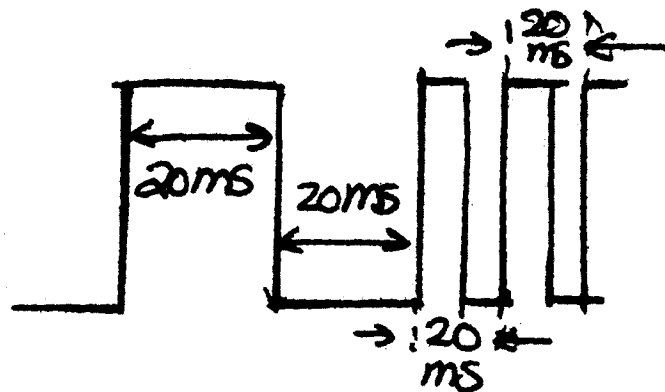

Fig. Q5(c)
- c. Find the number to be stored in TH1 and TL1 register to generate the waveform shown in Fig. Q5(c). Also write the assemble level program to generate the waveform shown in Fig. Q5(c) on P3.1, using timer1. Assume the crystal frequency as 22 MHz. (08 Marks)